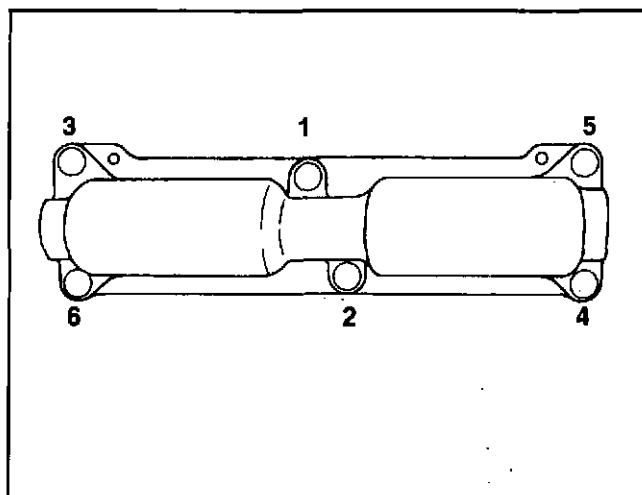

Fig. 14-29 (N114236). Tightening Sequence For The Cam Follower Housing.
4. Install the capscrews and lockwashers. Tighten the capscrews to 15 ft.-lbs. [20 N•m] torque. Then, tighten the capscrews to 30 to 35 ft.-lbs. [41 to 47 N•m] torque. Follow the sequence in Fig. 14-29 to tighten the capscrews.